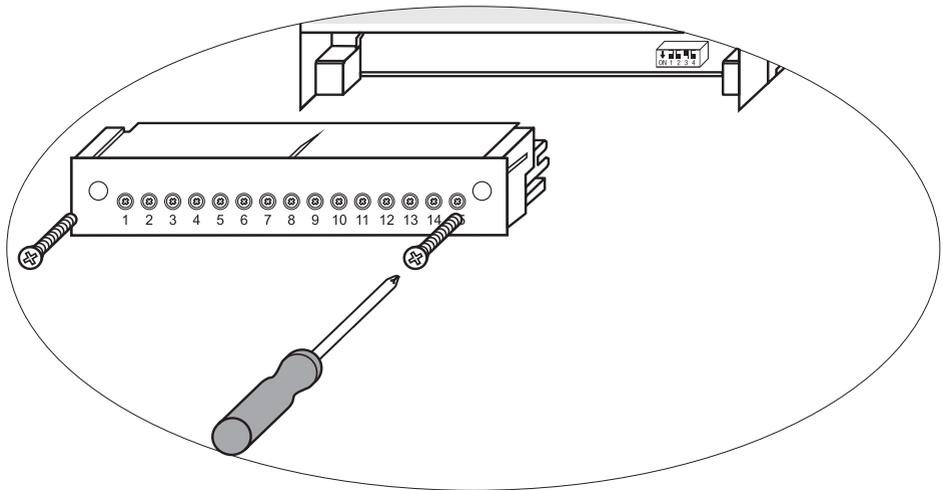

Fig. 47
- Unscrew the left and right fixing screws. See Fig. 47